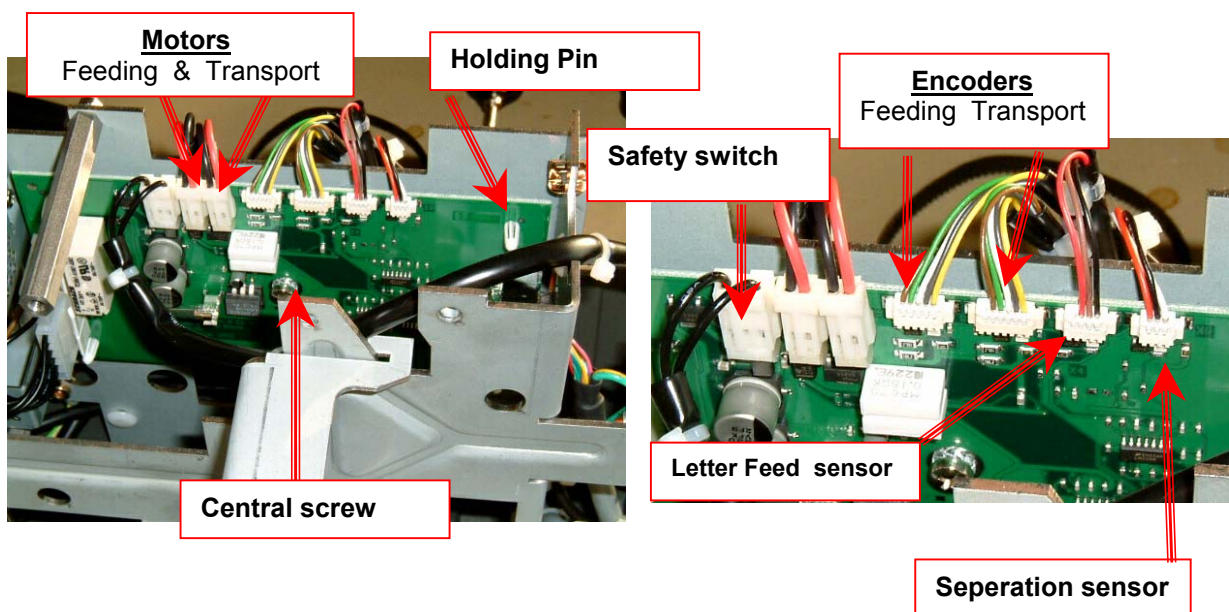

Fig. 33
- Compress the 4 holding pins individually, and remove the Feeder Control Board. (Fig.33)